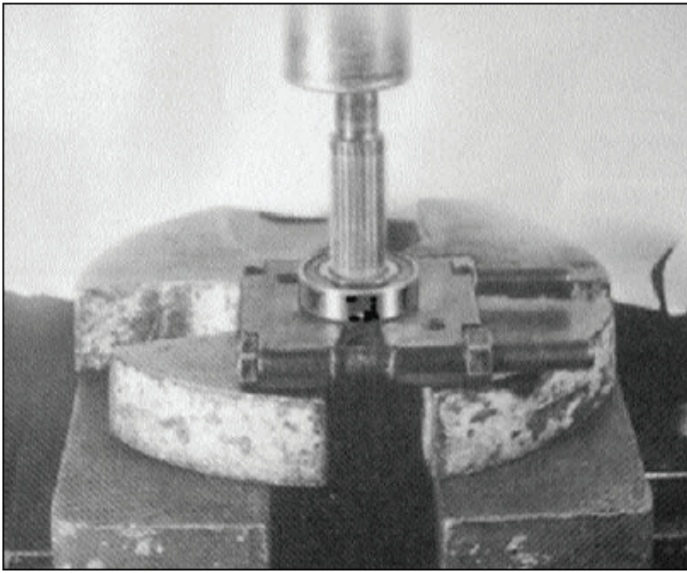
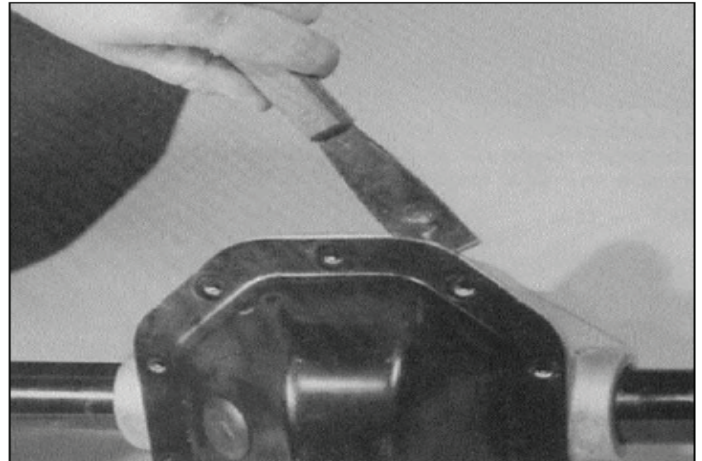

Figure 7-12. Removing Axle Bearing
Figure 7-13. Removing Cover Plate
5. Remove the bearing (28) from the axle shaft by supporting the inner race of the bearing in an arbor press. Apply pressure to the threaded end of the axle shaft. See Figure 7-12.
7. Remove ten cover screws (20).
8. Position the axle housing (1) over a drain pan. Using a putty knife, separate the cover plate from the housing (Figure 7-13). Use care to not damage the housing sealing surfaces or to deform the cover plate.